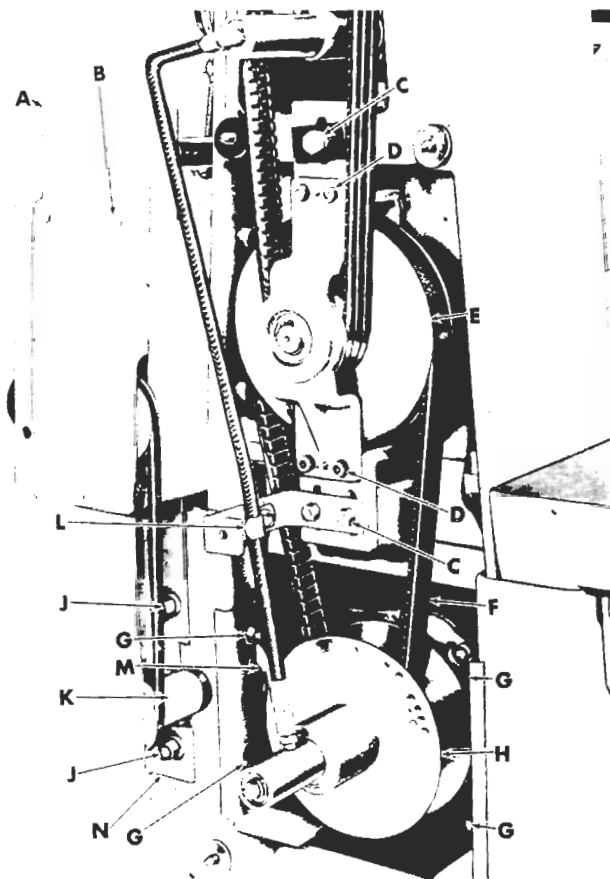

Figure 2
3. Move power feed pulley assembly (K, fig. 2) until belt is properly tensioned.
2. Loosen two lock nuts (J, fig. 2).
3. Slide bracket assembly (N) until belt is properly tensioned.
4. Tighten lock nuts (J).
2. Loosen clamp holding hydraulic line (L, fig. 2).
3. Loosen the three screws (C) holding countershaft assembly to column.
4. With a small lever (screw driver) force countershaft assembly downward, and retighten three screws (C).
5. Tighten clamp that holds hydraulic line (L).